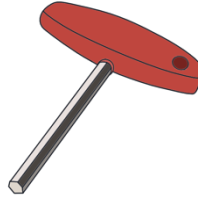
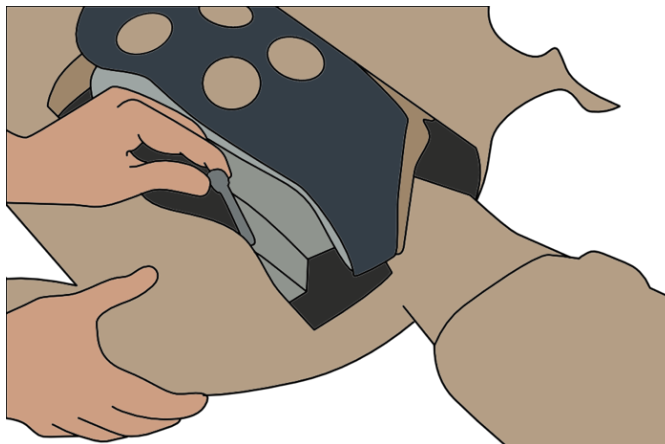

Figure 2. Laerdal Arm Allen Key Provided with Laerdal SimMan 3G Manikin
Figure 9. Unbolt Arm Connection
The only tool required to install SIMETRI's Amputations with Cores is the Laerdal Arm Allen Key (8 mm) provided with the Laerdal SimMan 3G manikin (**Figure 2**).
If replacing an arm, repeat the steps to unzip the chest skin and lift up the chest plate. Use the Laerdal Arm Allen Key (8mm) (**Figure 2**) to unbolt the arm connector of the limb and disconnect the arm (**Figure 9**).
3. Reinsert the arm connector of the limb to reconnect the arm. Secure with the bolt you secured when installing the arm amputation, using the Laerdal Allen Key (**Figure 2**).